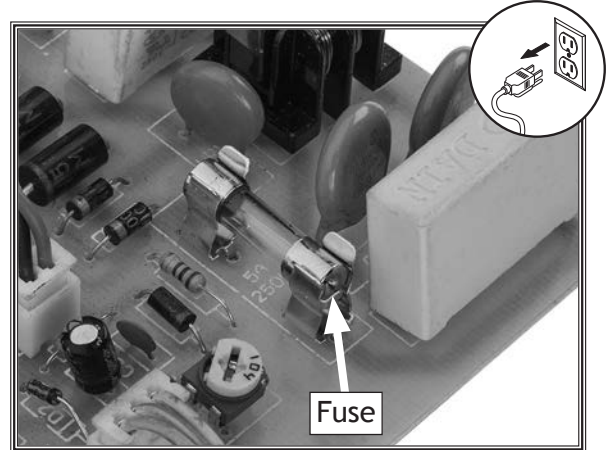

Figure 35. Fuse location on circuit board.
2. Remove switch cover, slide circuit board partially out, remove fuse (see **Figure 35**), and install a new one.